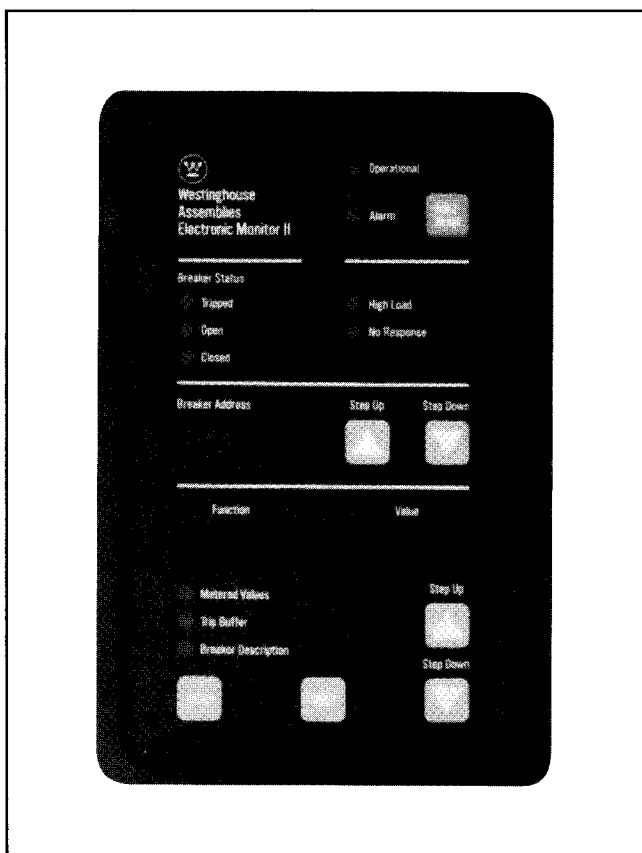

Figure 1.1 — Assemblies Electronic Monitor II
1.0 General — The Assemblies Electronic Monitor II (AEM II), Figure 1.1, is a microprocessor-based, self-contained, door-mounted device designed to monitor and display parameters of up to forty breakers equipped with Digitrip RMS 700, 800, 810, and 910 trip units. (For information on the trip units see I.L.'s 29-853 and 29-854, new IL# for 810, 910 respectively.) The two-way communication between the trip units and the AEM II utilizes integral INCOM chips and is accomplished using a single shielded twisted pair of conductors.
The Operator Panel (Figure 1.1), which makes up the unit's front face, supports a function window, which visually indicates the actual metered values being displayed, the historical trip buffer, and a user-programmable description. A breaker address window shows the identification of the breaker being monitored. The Operator Panel also contains "Breaker Status" LEDs, an "Operational" LED, an "Alarm" LED and seven pushbuttons. The "Breaker Status" LEDs indicate the status of the breaker whose address appears in the breaker address window. If a breaker trips, the trip cause will be displayed in the function window, and the address of the tripped breaker will appear in the breaker address window.
2.1.1 Operator Panel — The operator panel (see Figure 1.1), which is accessible from the outside of the panel or door, provides a means to: